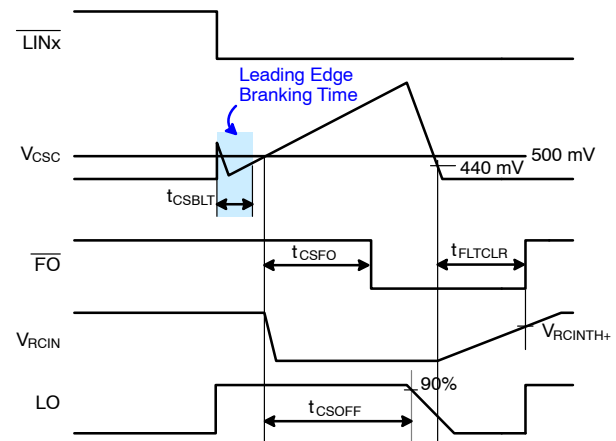

Figure 43. R_{CIN} and Fault-Clear Waveform Definition
Figure 43 shows the waveform definitions of RCIN, $\overline{\text{FO}}$, and the low-side driver; which uses a soft turn-off method when an under-voltage condition of the low-side gate driver supply voltage (V_{DD}) or the current-sense pin (CS) recognizes a fault. If a fault condition occurs, the $\overline{\text{FO}}$ Pin is internally pulled to COM and all outputs (HO1,2,3 and LO1,2,3) of the gate driver are turned off. Low-side outputs decline linearly by the internal sink current source ($I_{\text{SOFT}} = 40 \text{ mA}$) for soft turn-off, as shown in Figure 43.